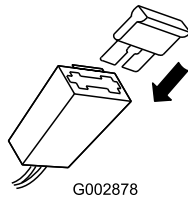

Figure 32
3. Replace the fuse in the fuse holder (Figure 32).